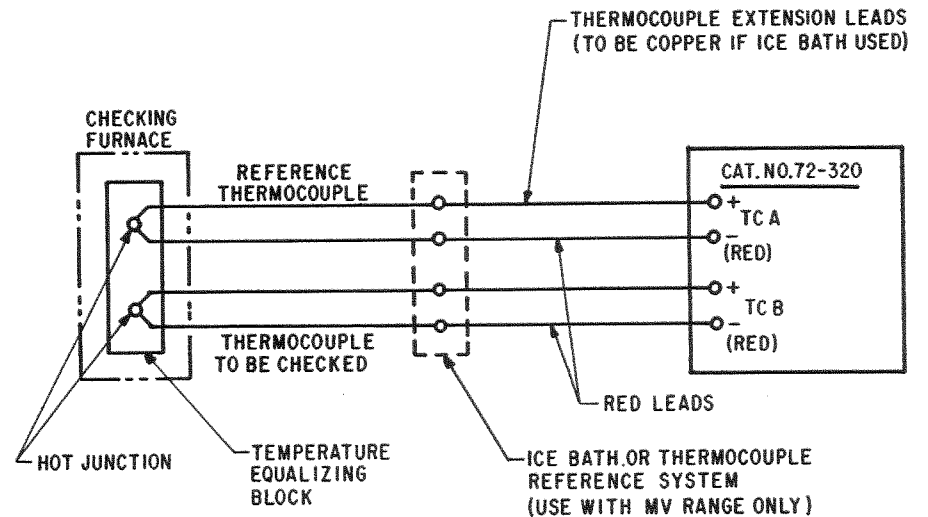

FIGURE 6: CHECKING THERMOCOUPLES
- (a) Insert the hot (measuring) junction of the Reference and Check thermocouples, to a sufficient depth, into a temperature equalizing block within the checking furnace. This will maintain thermal uniformity between the two thermocouples and also will prevent the hot junction of the couples from being affected by heat flow along the wires. Connect the thermocouples to the Test Set as shown in Figure 6, observing proper polarity as described in Section G1.